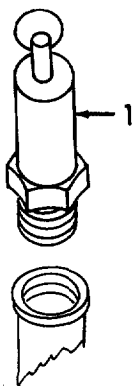

Figure 3-34. Safety Valve, Installation.
e. *Installation.* Install the safety valve (1, Figure 3-34).